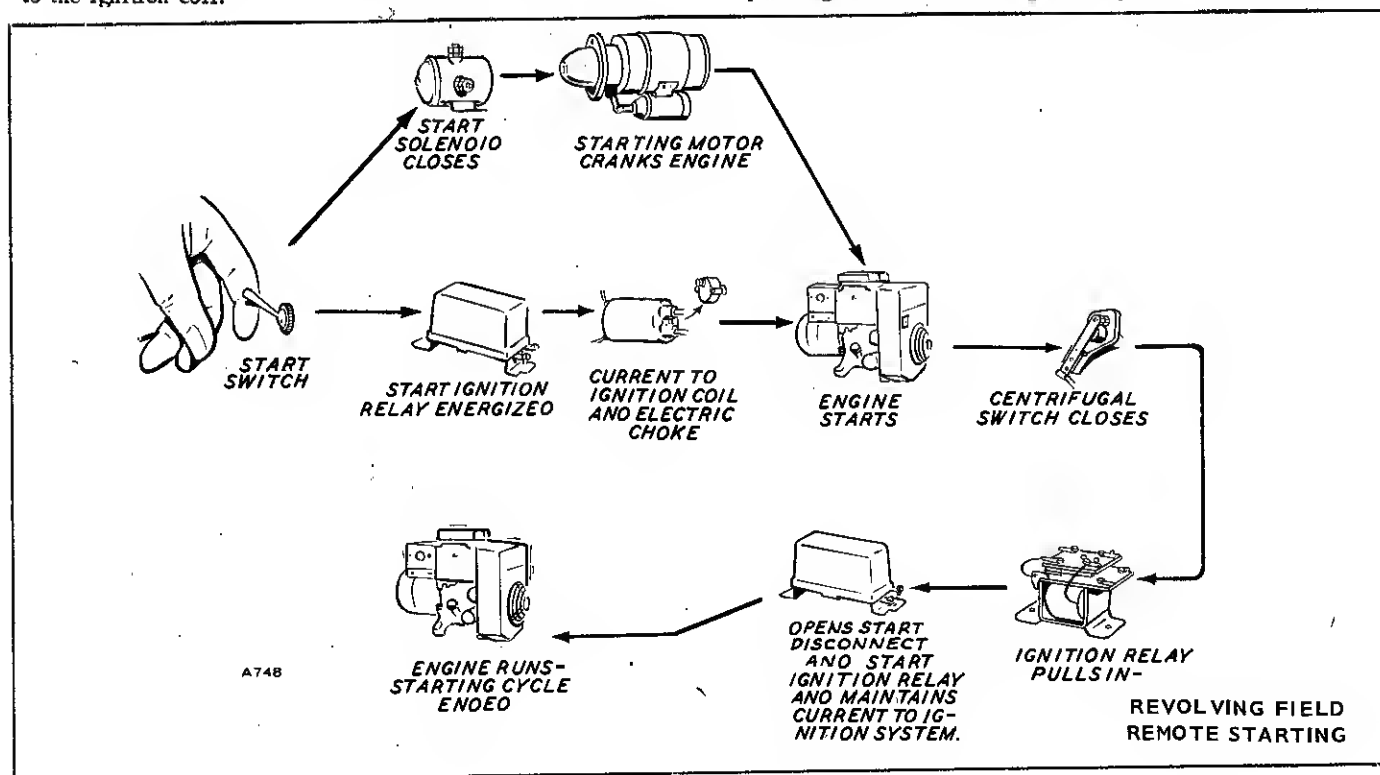

FIGURE 94. STARTING CIRCUIT FOR REVOLVING FIELD GENERATORS
**Starting and Stopping System:** The starting system includes start ignition relay, ignition relay, starting solenoid, and the centrifugal switch. It controls the solenoid-shift, over-running clutch, starting motor and the ignition coil circuit. Fig. 94 shows the start cycle. To stop the engine, the stop switch grounds the ignition relay, which opens the circuit to the ignition coil.